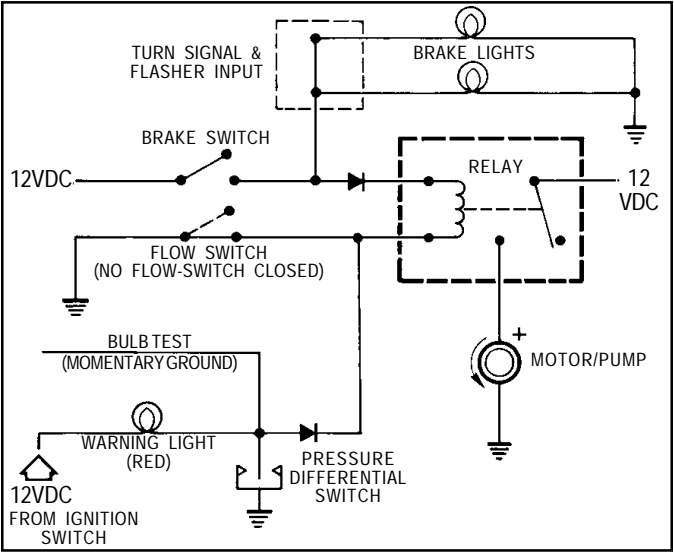

FIGURE 8
The following chart illustrates the operation of the basic warning system presented in Figure 8.
- Check the vehicle brake warning system (Reference Figures 8 and 9) comparing the reaction of warning lights and buzzers to the vehicle's handbook.